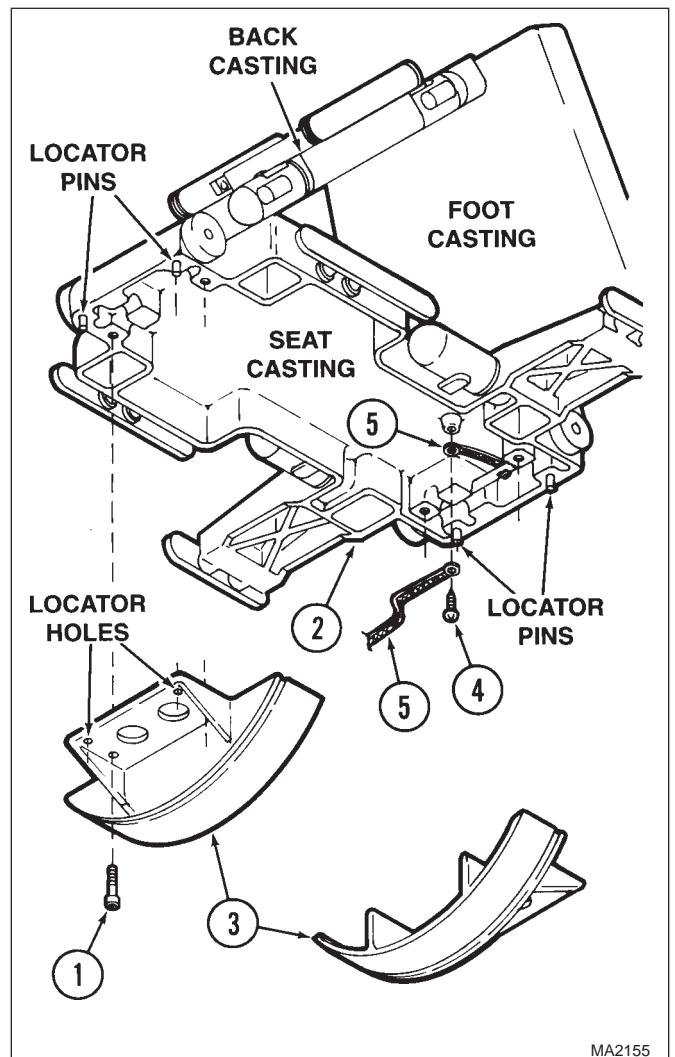

Figure 4-29. Table Top Removal
- (18) Tag and disconnect wire harness (5) from foot transducer (6).
- (19) Remove four screws (1, Figure 4-29) which secures the table top (2) to lateral tilt blocks (3).